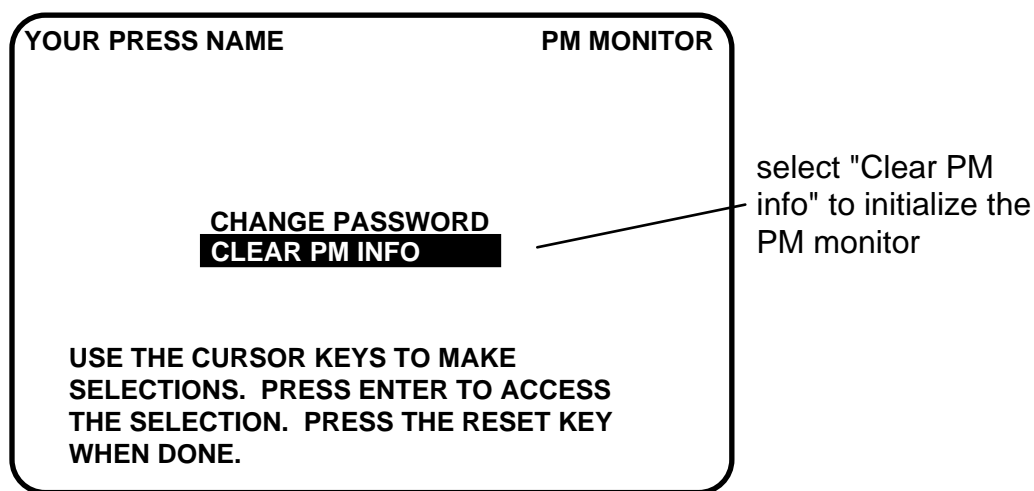

Figure C-5. Initialize PM screen
2. You will see the "Initialize PM" screen (Figure C-5). Select "Change Password".